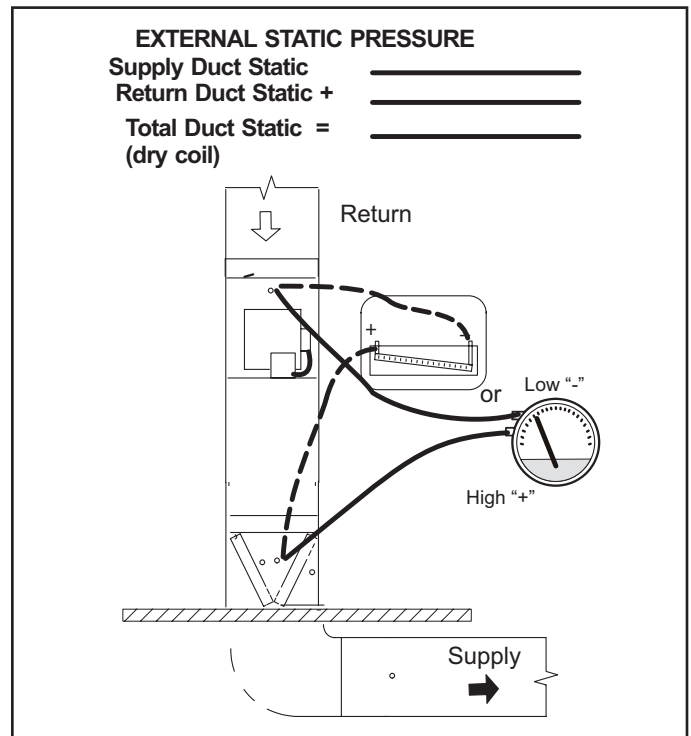

FIGURE 54
- 1 - Tap locations shown in FIGURE 54.